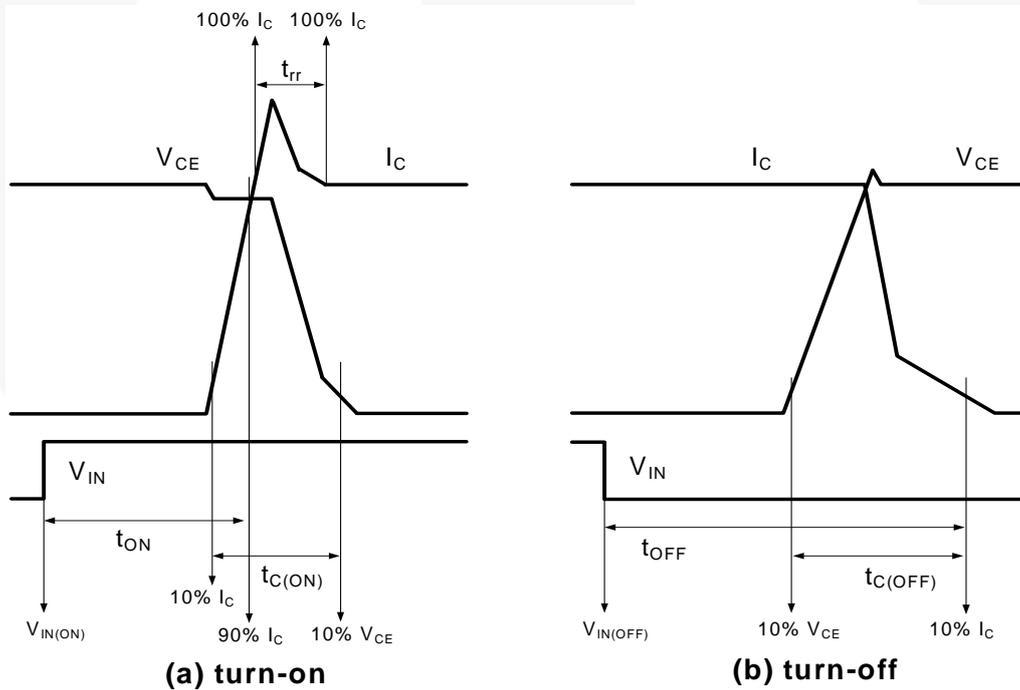

Figure 4. Switching Time Definition
6. t_{ON} and t_{OFF} include the propagation delay time of the internal drive IC. t_{C(ON)} and t_{C(OFF)} are the switching time of IGBT itself under the given gate driving condition internally. For the detailed information, please see Figure 4.